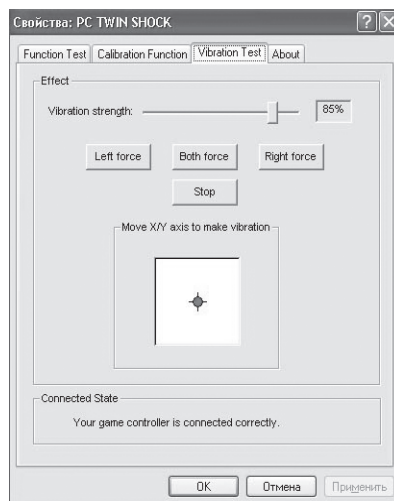

Fig. 8
- Enter Vibration test (Fig. 8) to test and to set Vibration feedback function:
- increase or reduce Vibration strength by moving cursor. For example: vibration strength is 85% in Fig. 8.